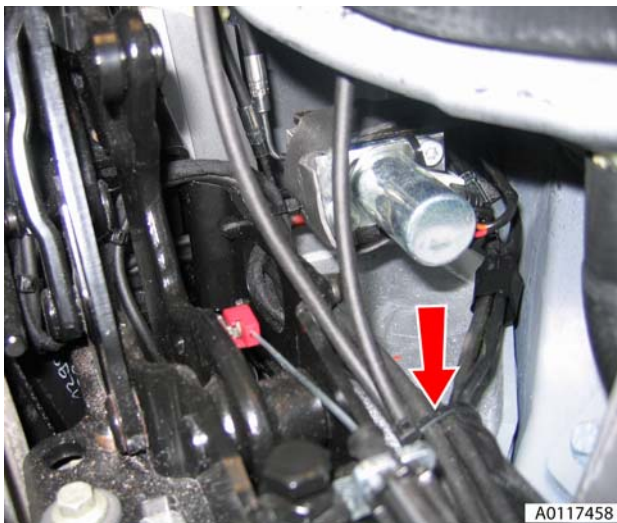

Figure 11
16. Remove cable ties and remove pipe from vehicle (see Figure 11).